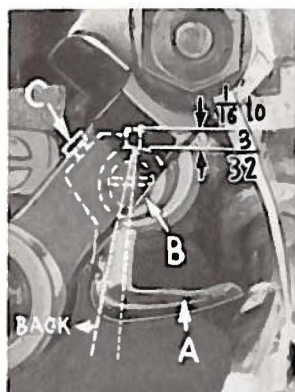

Fig. 8
Insert upper looper (A, Fig. 8) in its holder. Screw (B) holds upper looper in its holder, and permits it to be pushed in or out or turned around its shank. Insert upper looper holder into upper looper shaft, if it is not already in place. Screw (C) on clamp holds the upper looper holder in the shaft. Locate upper looper in its holder so that the shank extends  $\frac{1}{16}$  to  $\frac{3}{32}$  inch beyond holder.
When the upper looper is at the right end of its stroke, upper looper holder should be set to position upper looper shank back of vertical (Fig. 8).